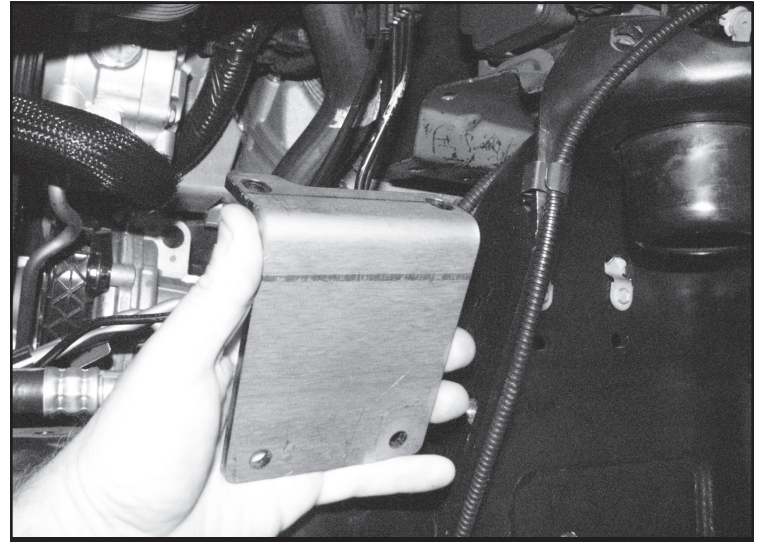

FIGURE 17 - STEP 19
19. Locate and install FT30664 (ABS Bracket) in the same location as the factory bracket previously removed using the factory nuts on the spring perch and the supplied 3/8" X 1-1/4" hardware. Torque to 52 ft-lbs. **SEE FIGURE 17**